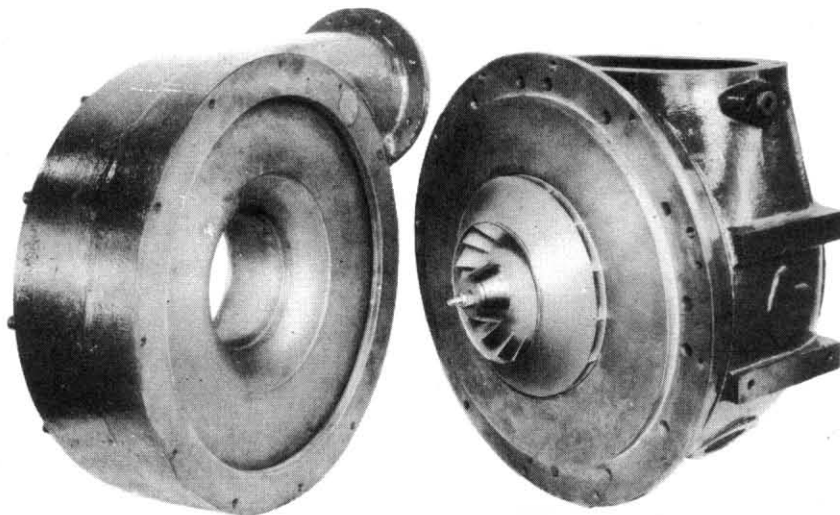

Fig. 5—Partially Dismantled View Showing Blower End Sub-Assembly with Vaneless Diffuser and Turbine and Intermediate Casing Assembled with Rotor.
2. Remove the intermediate casing to blower casing cap screws (28) on the L-20 and nuts (29) on the L-10, L-40 and L-60. Using these cap screws or blower inlet bolts (38) as jacking screws in the threaded holes provided, break the joint. With the aid of the cast lug on the blower inlet and a sling, remove the blower casing assembly (See Fig. 5). This assembly must be pulled out along the rotational axis to avoid damaging the impeller shroud labyrinth seal rings.